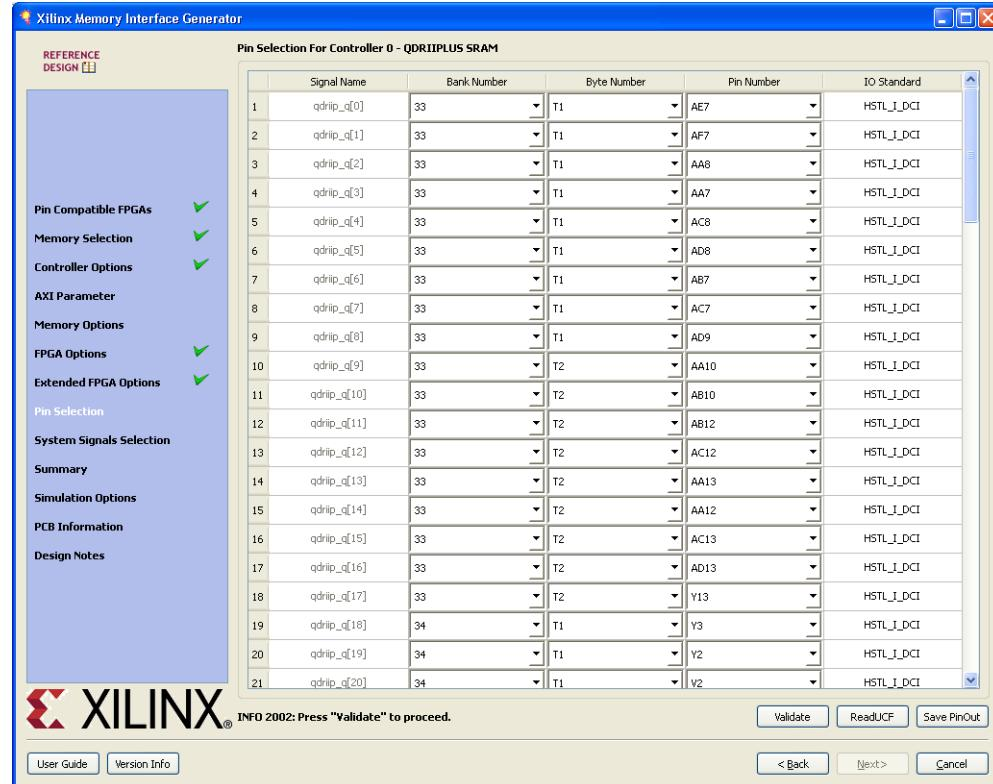

Figure 2-18: Pin/Bank Selection Mode
- **Pin/Bank Selection Mode** – This allows you to specify an existing pinout and generate the RTL for this pinout or pick banks for a new design. Figure 2-18 shows the options for using an existing pinout. You must assign the appropriate pins for each signal. A choice of each bank is available to narrow down the list of pins. It is not mandatory to select the banks prior to selection of the pins. Click **Validate** to check against the MIG pinout rules. One cannot proceed until the MIG DRC has been validated by clicking the **Validate** button.